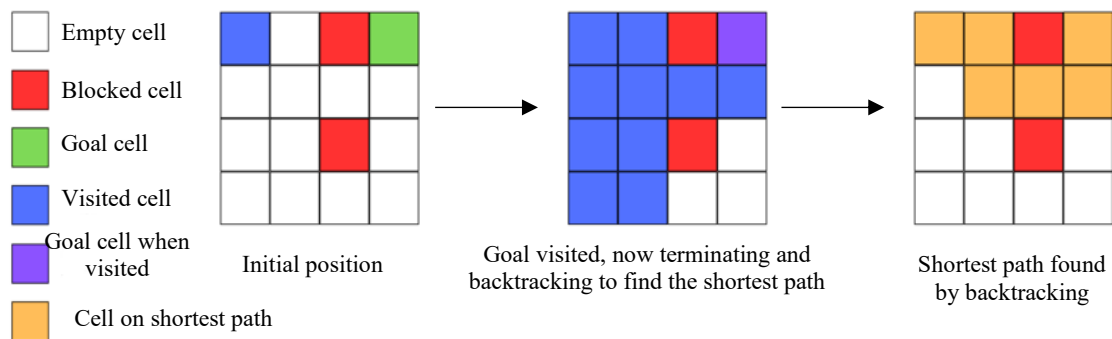

Figure 1. Visualization of shortest path finding using breadth first search.
2. *Breadth First Traversal:* Visit all neighbors first, place them in a visited queue, and visit their neighbors that are not in the visited queue until reaching the target, while keeping a log of cell transitions. Once the target is reached, the logged data are used to backtrack and find the shortest path. (Figure 1)